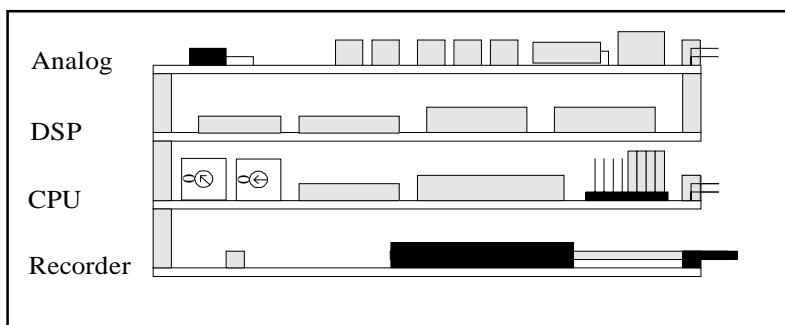

Figure 6 – ADP Processor
Figure 6 illustrates the general layout of the ADP processor. The processing module consists of three printed circuit (PC) boards, with an optional fourth board for internal recording. These boards are connected in a vertical stack using connectors at one or both ends of the boards. From the top, they are called the analog board, the DSP board, the CPU board, and the recorder board. The name and revision level of each board is shown in white lettering along one edge. The rectangular board dimensions are 10.1 x 15.2 cm (4 x 6 in), and within the stack each board is separated by 1.3 cm (0.5 in).